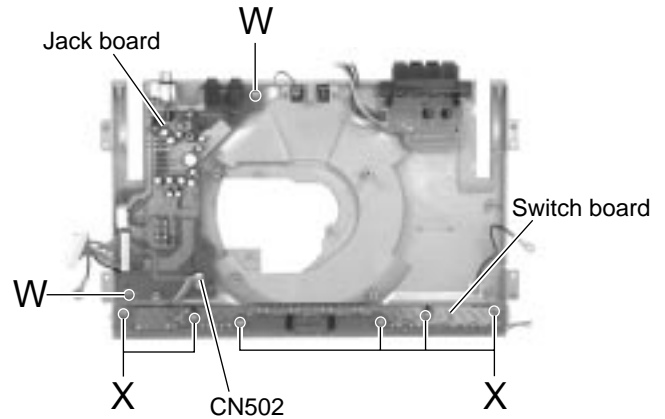

Fig.40
■ Removing the jack board (See Fig.40)